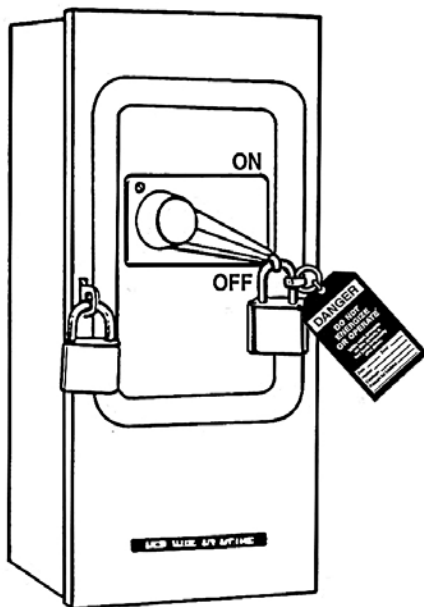

Figure 32: Electrical Lockout
3. After the machine has stopped, shut off the power in electrical lines. The main disconnect switch should be opened and locked in the open (OFF) position by the person in charge or by a qualified person under his direction such as an electrician (Figure 32).